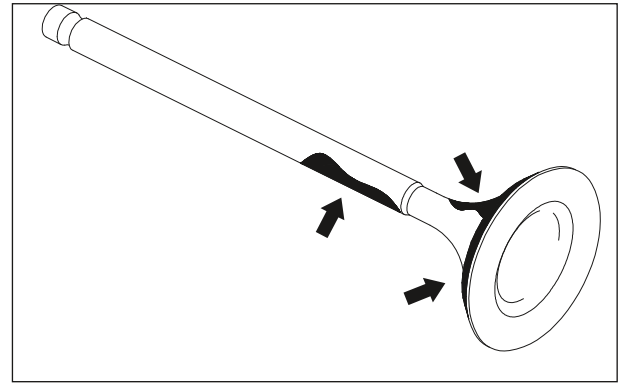

Fig. 3.112
- Carbon deposits on the valve stem rubs continuously on guide valve and this will result in increased clearance between the valve stem and guide valve. Clean the valve stem with the cleaning solvent. (Fig. 3.112)